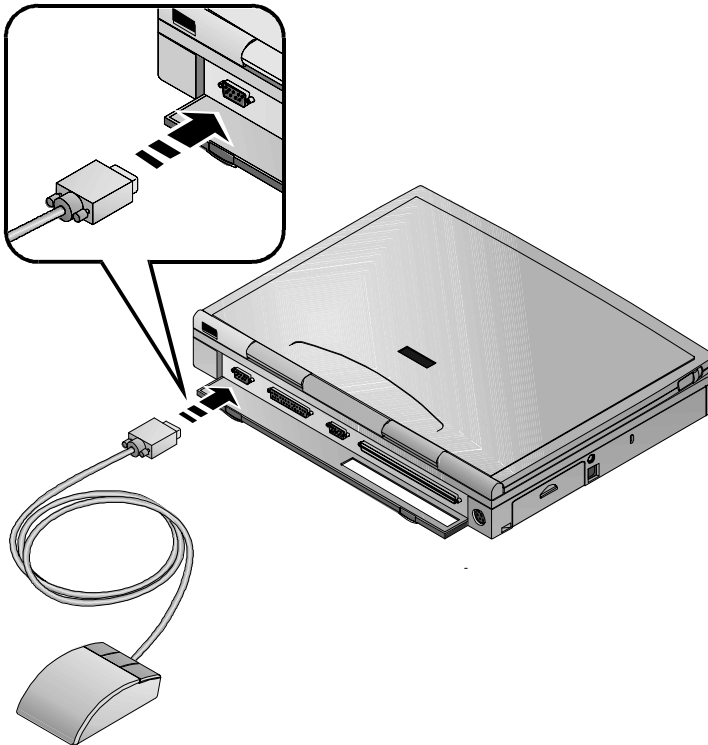

Figure 4-3: Connecting a Serial Mouse
1. Connect the mouse cable to the notebook's serial port located on the rear of the notebook. (Figure 4-3)